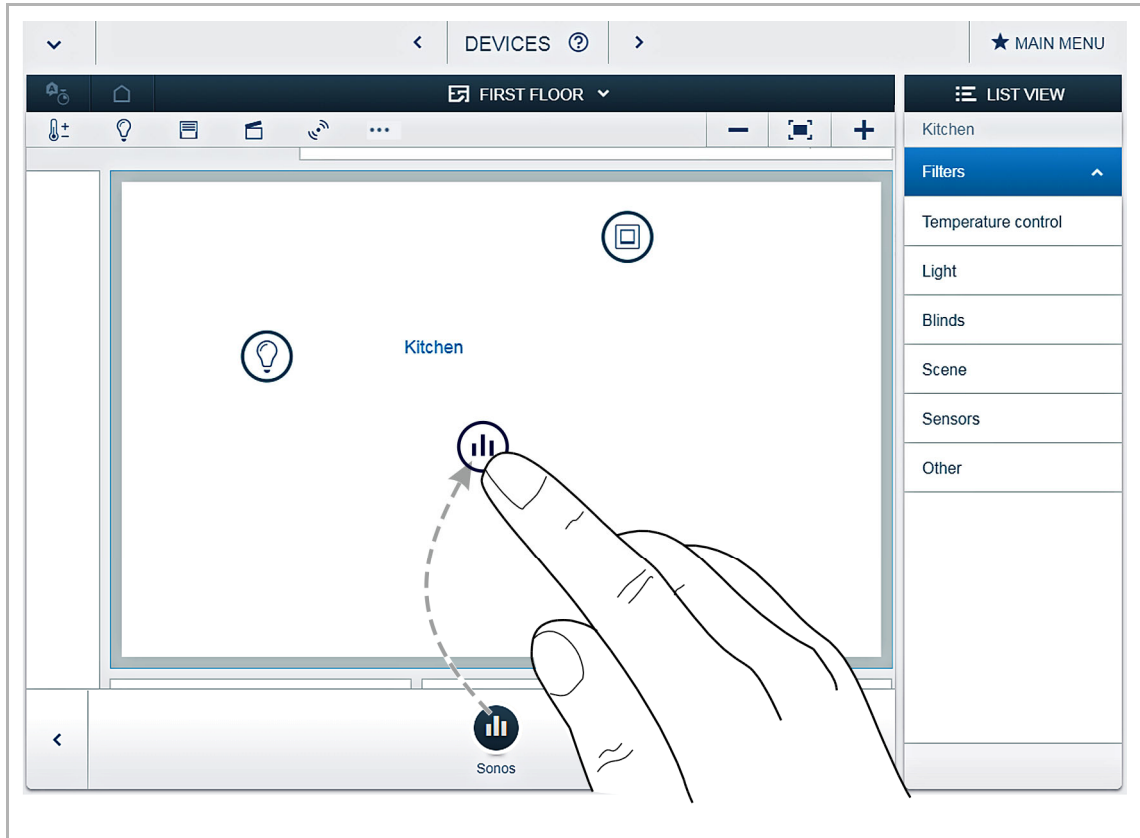

Fig. 118: Allocating Sonos speakers to rooms
2. For allocating the Sonos speakers (Media Player) to rooms in the "Devices" menu, see Fig. 118.